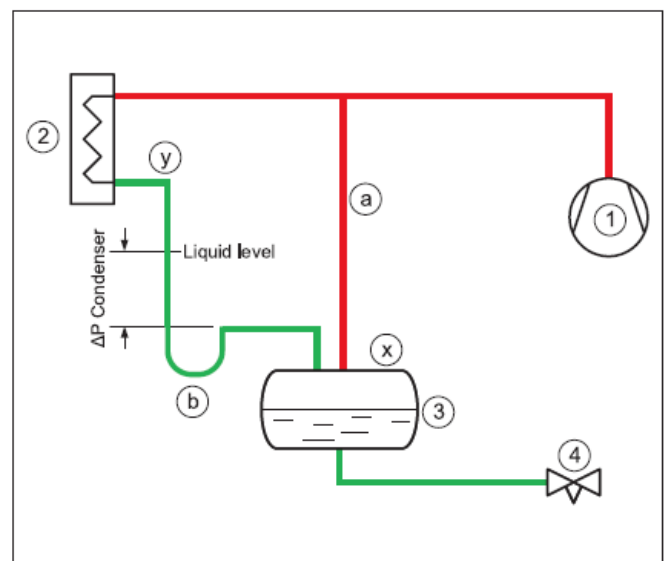

Fig. 5 Liquid level. Top connected receiver
and Fig. 5.
- If the liquid from the condenser is connected to the top of the receiver (Fig. 5), a slightly different arrangement must be made.